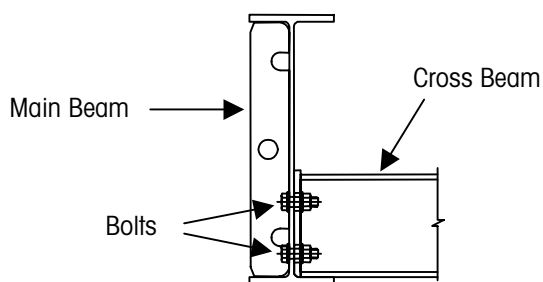

Figure 5-3: Attaching Cross Beam to Main Beam
3. Place the cross beams on the inside bottom flanges of the main beams at the locations where there are bolt holes in the main beams (see Figure 5-3). The cross beams can be moved by two workers or with the same equipment used to lift the main beams. Be sure to place the cross beams with anchor hooks at the end of each module. The anchor hooks should be in the concrete when the deck is poured.
4. Loosely attach the cross beams to the main beams using two 1-inch diameter bolts for each connection (see Figure 5-3).